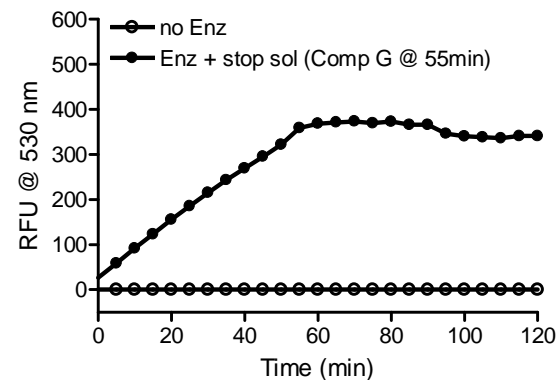

Fig. 3. Stop solution (component G) effectively maintained RFU value when added at any desired time points.
**E. Data collection at end-point mode:** After initiation of reaction with test compound or control inhibitor at 25°C, add stop solution at certain time points (ex, 30, 60 or 90 min) (component G, 5ul/well of 96-well or 1ul/well of 384-well plate) and measure RFU values. After addition of stop solution, further cleavage reaction will be stopped and the RFU values are maintained as shown in Figure 3. This method is useful for the high throughput screening of test compounds to obtain potential drug candidates.